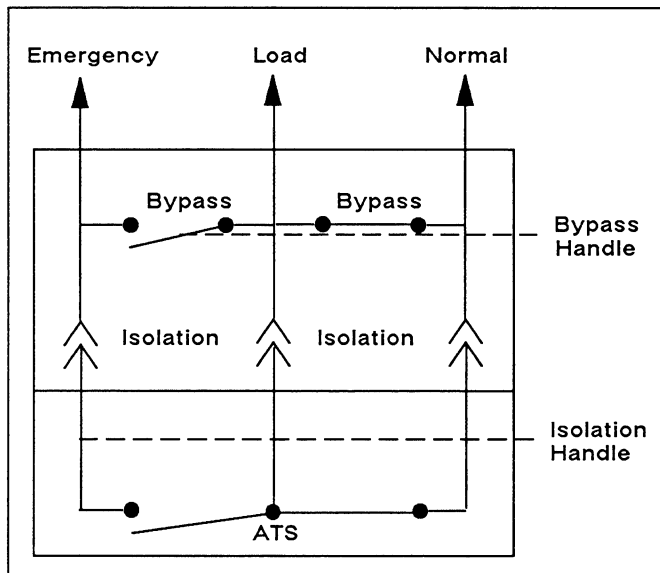

Figure 4. Isolation Position.
3. Isolate the Automatic Transfer Switch. See Figure 4.